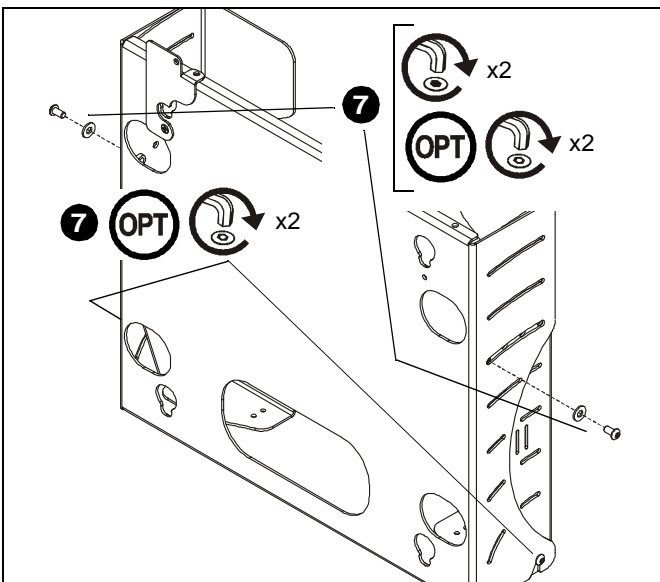

Figure 6
5. Tighten strap (E) securely.
7. Using key (F), re-install the retained upper front plate attach screws and washers (See Figure 6).
**NOTE:** If desired, security screws (C) may be substituted for non-security screws at both upper and lower attach points.